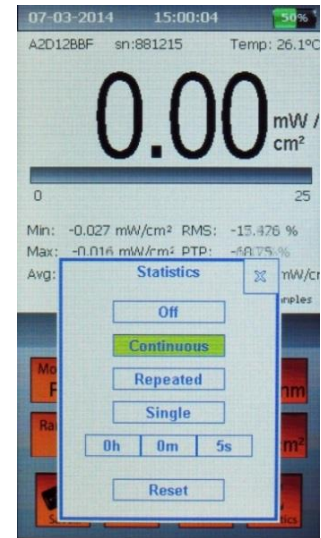

Figure 13
- a) Touch the Statistics button  on the screen of the Plus 2 and the Statistics window will be displayed (Figure 13).